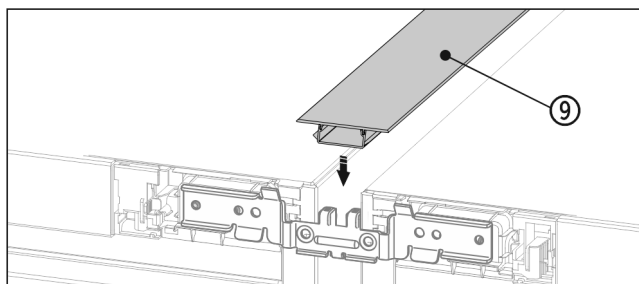

Fig. 20 *
- On the top press the short cover strip Fig. 20 (9) into the horizontal gap.*